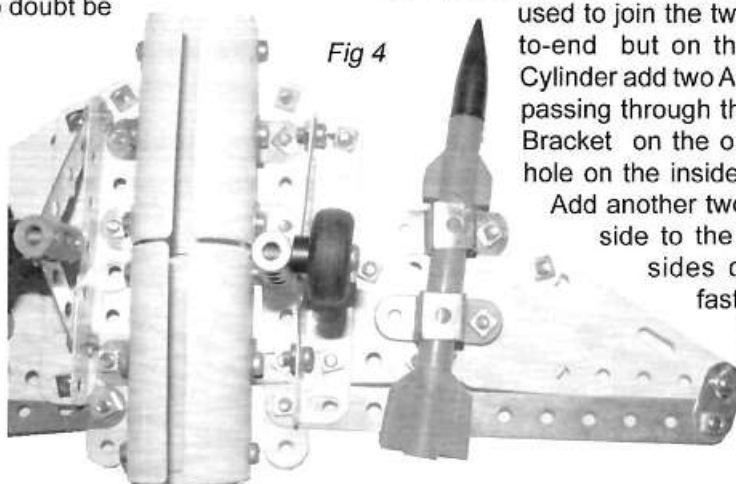

Fig 4
Once the wing has been formed as described, a $3\frac{1}{2}$ " Angle Girder (A601) can be fixed to each side of the wing using the slotted holes as shown in Fig. 4. To the front facing Angle Girder first hole fix a $2\frac{1}{2}$ " Narrow Strip (235) and to the second hole from the rear of the Angle Girder fix a 4-hole Narrow Strip (A417). These strips join and are held in place by a bolt fixed through the lower screw hole of a Coupling as in Fig. 4. Through the upper screw hole in the Coupling is fixed a 1" Bolt holding a Wheel (142j) made up of a $1\frac{1}{2}$ " Plastic Pulley (A384) and a Tyre (A542). This has a Washer placed between the Wheel and the bolt head with a Large Plastic Spacer (A238) fitted between the Coupling and the Wheel. Tighten the screw just enough to allow the Wheel to rotate freely.
At this stage the missiles from the Space Construction set (491) can be used (they are not necessary however and can be left out of the model if you do not have them.) Fasten them to the underside of the wings using two Double Bent Strips (45), the means of fixing can be easily seen in Fig. 4. This completes the two wings which can now be fastened to the main fuselage by the three Angle Brackets, as in Figs. 3 and 4.